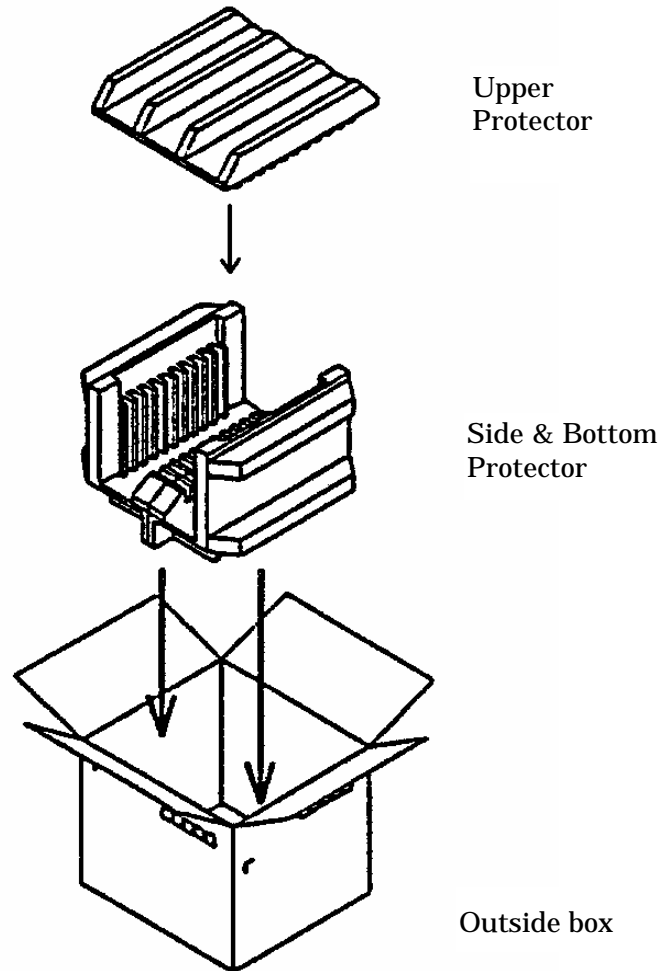

Fig. 1. Illustration of packaging box structure
- construction: See fig. 1
- dimension: 451 (W) × 413 (D) × 381 (H) [mm]